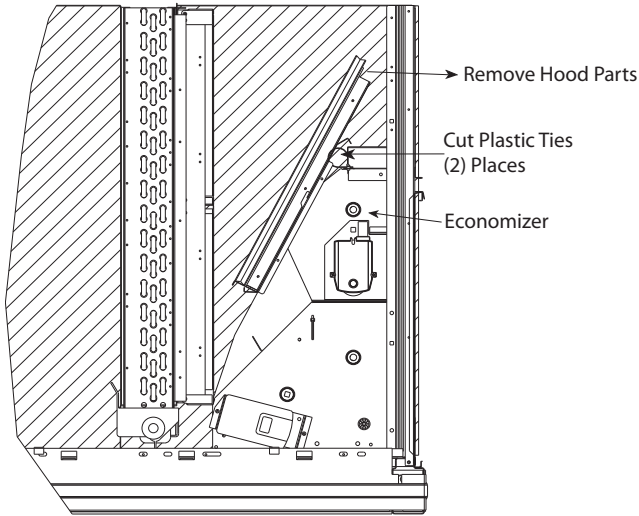

Fig. 8 - Economizer Wiring
3. Locate and cut the (2) plastic tie-wraps, being careful to not damage any wiring. (See Fig. 8.)